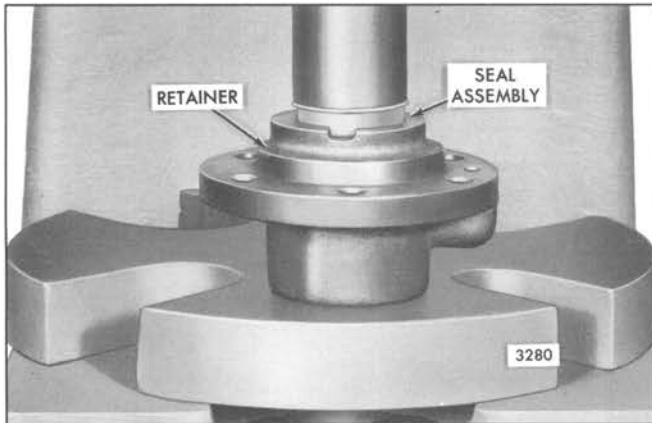

Fig. 17 - Installing Water Seal Assembly
6. To reduce possible coolant leakage, apply a light coat of non-hardening sealant to the outside diameter of a new water seal. Then, press the seal in place with a suitable sleeve, with an inside diameter large enough to fit around the seal and resting on the brass cartridge lip (Fig. 17).